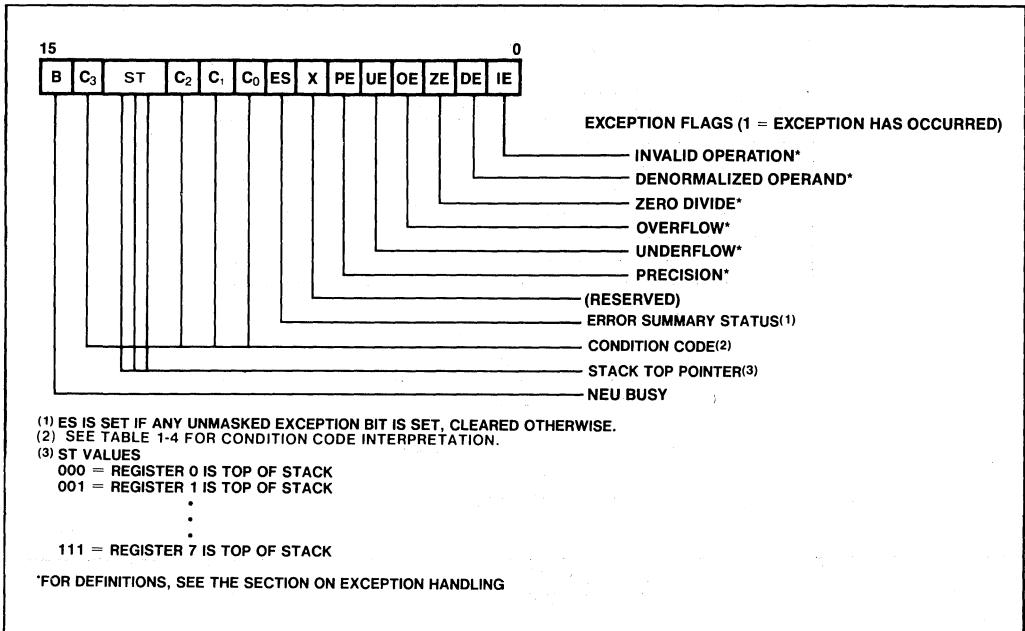

Figure 6. 80287 Status Word
Bits 14-12 of the status word points to the 80287 register that is the current top-of-stack (ST) as described above. Figure 6 shows the six error flags in bits 5-0 of the status word. Bits 5-0 are set to indicate that the NEU has detected an exception while executing an instruction. The section on exception handling explains how they are set and used.
Bits 14-12 of the status word point to the 80287 register that is the current top-of-stack (ST) as described above. Figure 6 shows the six error flags in bits 5-0 of the status word. Bits 5-0 are set to indicate that the NEU has detected an exception while executing an instruction. The section on exception handling explains how they are set and used.